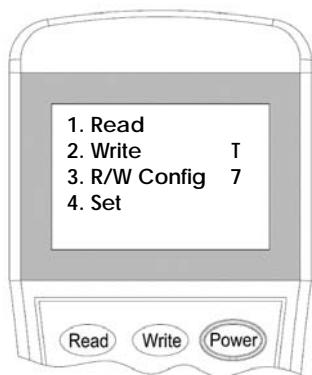

Figure 4
2. Switch-on the programmer, then press button “Write” or number “2” to enter Write Address mode (Figure 4).